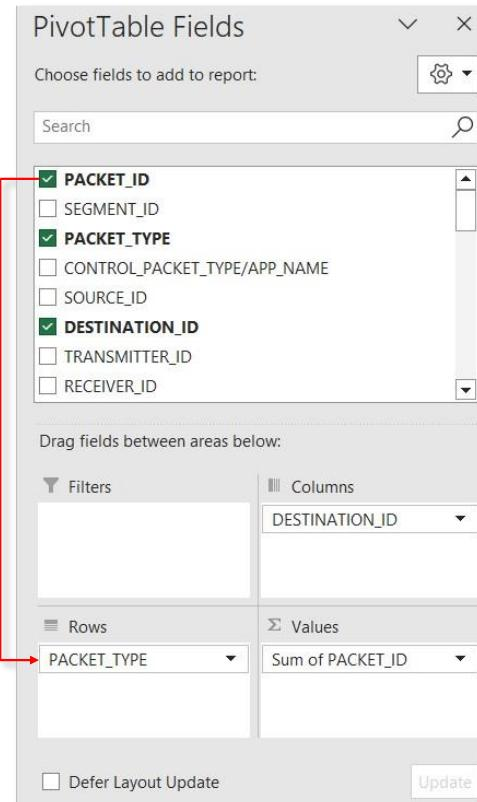

Figure 8-33: Select the PACKET_TYPE Check Box and drag it to the ROWS fields
- If you wish to know how many Data and how many were control packets then, check the PACKET_TYPE and drag it to the ROWS field as shown below Figure 8-33.